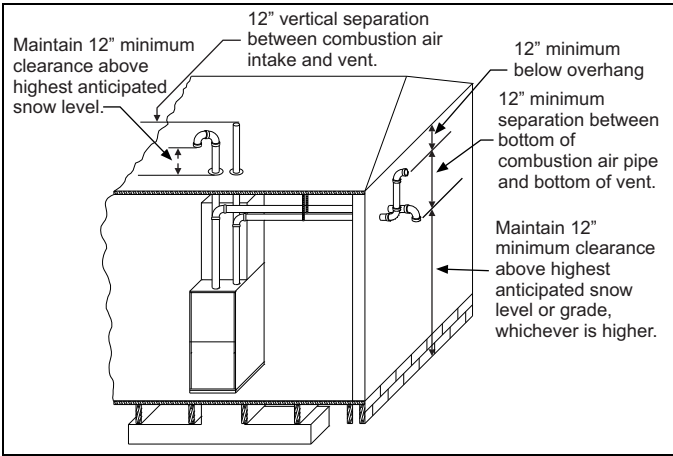

FIGURE 32: Termination Configuration - 2 Pipe
- 7. Direct vent systems must be installed so the vent and the combustion air pipes terminate in the same atmospheric zone. Refer to Figures 32 or 33.
The combustion air side of the two-pipe configuration shown in Figure 32 can be installed so the combustion air pipe terminates as described in outdoor combustion air or ventilated combustion air sections in these instructions. Follow the instructions for outdoor combustion air or ventilated combustion air and the instructions for installing the vent system with the vent terminating as shown in Figures 34 or 35. The two-pipe system must have a separate combustion air pipe and a separate vent pipe for each furnace. Under NO circumstances can the two combustion air or vent pipes be tied together. The combustion air and vent pipes must terminate in the same atmospheric zone.